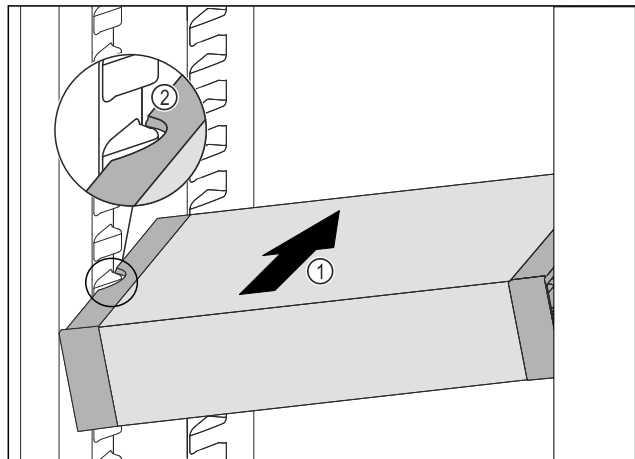

Fig. 73
- ▶ Insert the VarioSafe into the fridge section at an angle Fig. 73 (1) until the recesses in the side Fig. 73 (2) of the VarioSafe are at the level of the support rib in the fridge section.